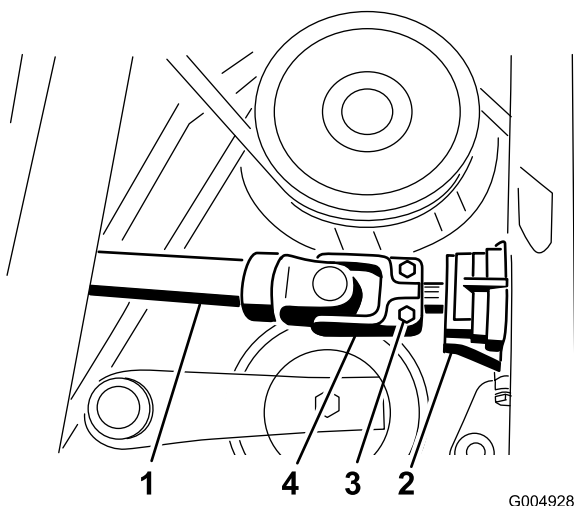

Figure 35
4. Loosen the PTO drive shaft bolts and nuts. Remove the roll pin and pull the drive shaft off of the gearbox shaft (Figure 35).